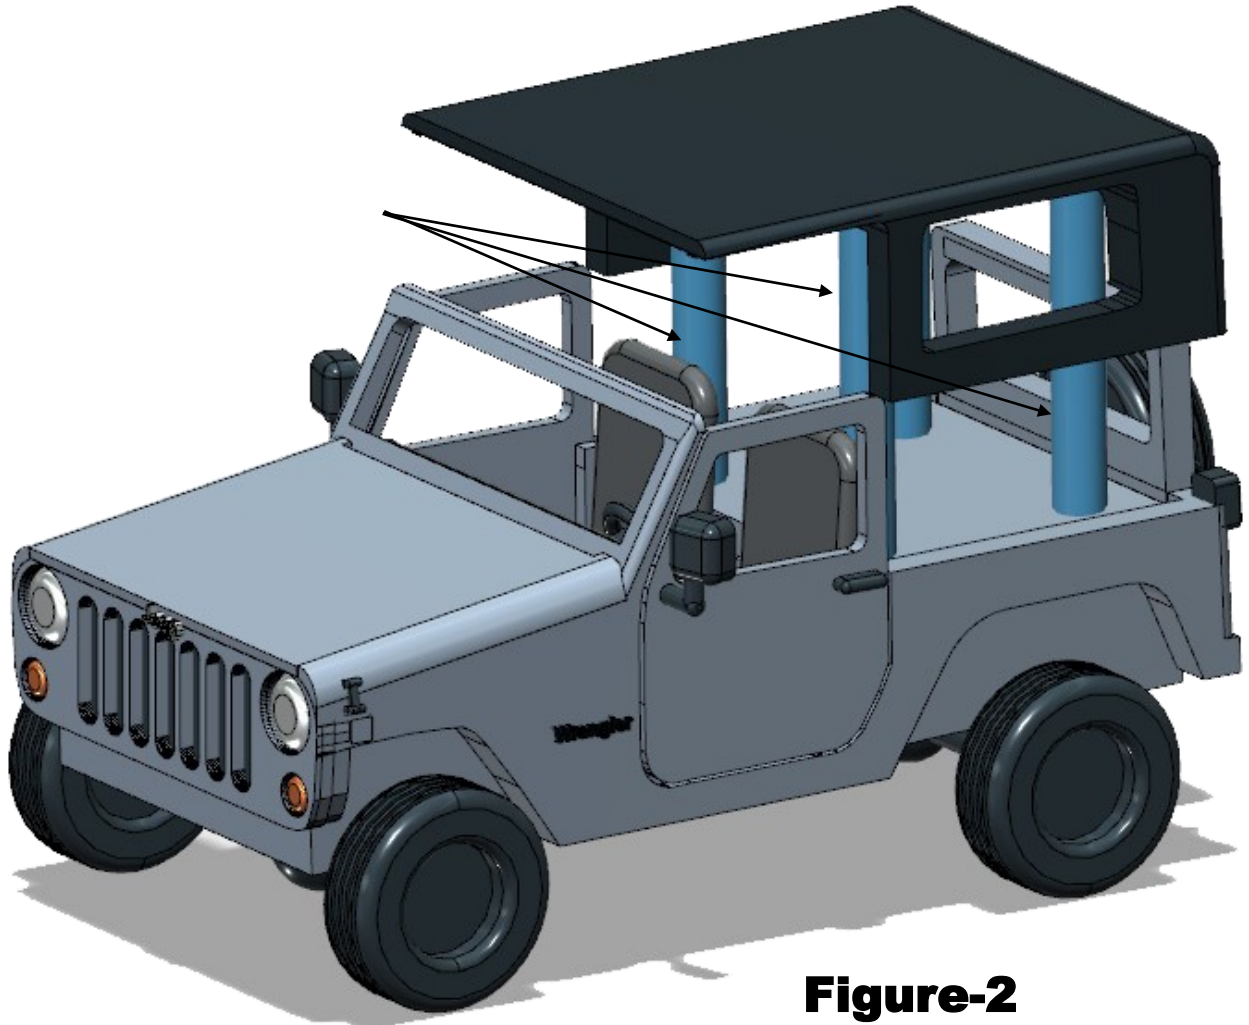

Figure-2
- Refer to Figure-2, above, and cut the 4-sprues that connect the top to the body. Carefully reach in through the openings with a jeweler's side-cutter and cut each sprue where practicable.